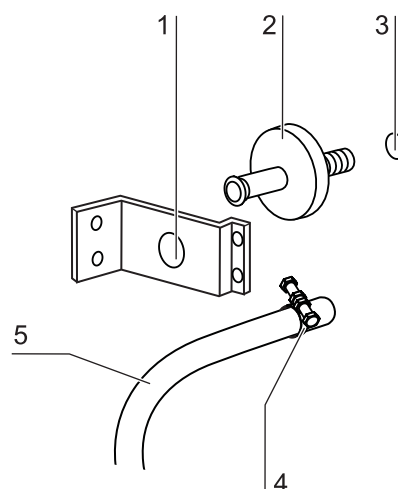

Fig. 73: Gas inlet filter installation
**Fig. 73:** The gas inlet filter (CO2-/O2-/N2 supply) has plastic threads and is screwed by hand into the threaded hole at the control box.